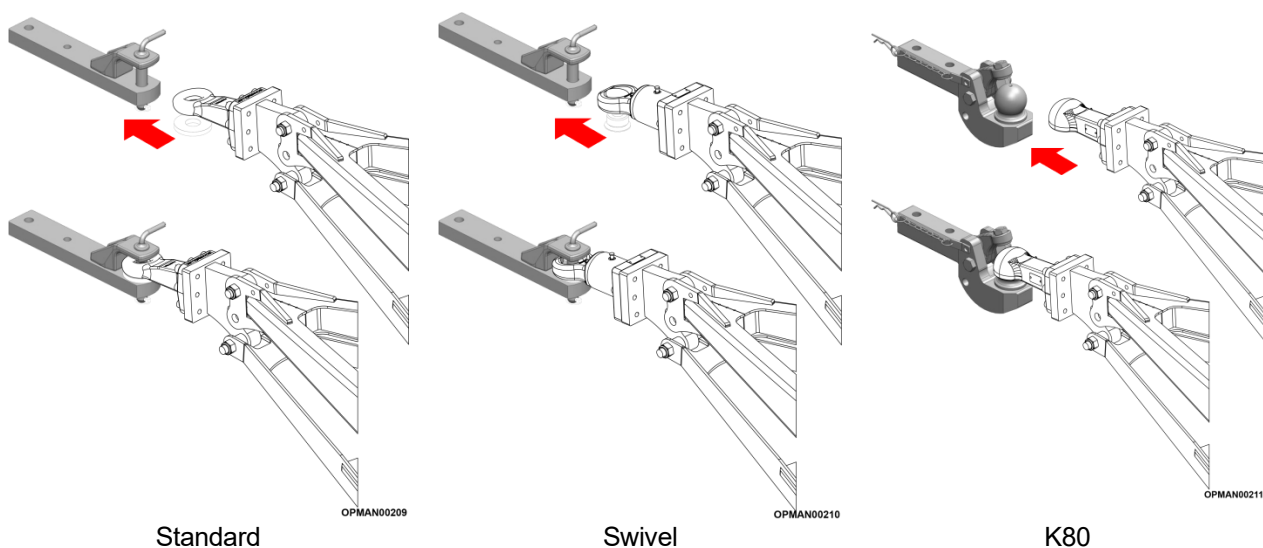

Figure 4.8 – Army Master Towing Eye Options
- 4.4.2.6 If the machine is fitted with either a standard or swivel towing eye, wear pads should be placed between the towing eye and the clevis hitch; see Figure 4.8.